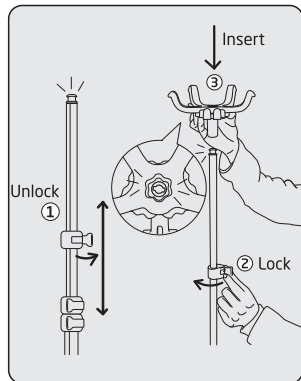
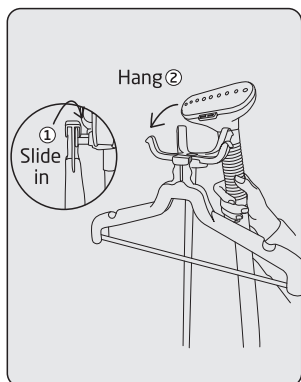

FIGURE 3
FIGURE 4
2. Unlock the telescopic pole lock to extend the pole to desired height and lock in place. (see figure 3) Attach the hanger to the top and lock in place. (see figure 4)